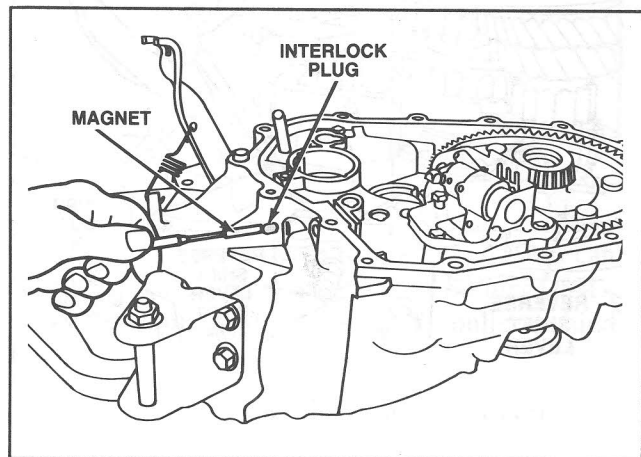

Figure 49 Interlock Plug Removal
19. Remove the interlock plugs using a magnet. (Figure 49).